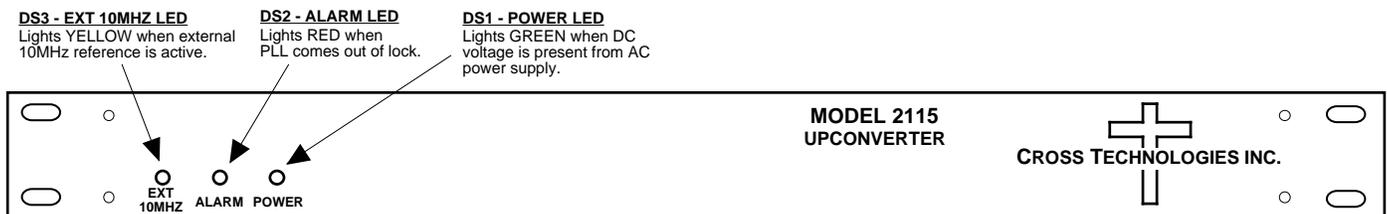

FIGURE 2.2 2115-123 Front Panel Controls and Indicators
4. Be sure DS1 (green, DC Power) is on and DS2 (red, Alarm) is off (Figure 2.2).
6. If EXT is selected or AUTO is selected and there is a 10MHz, +3 dBm signal at J2, check that DS3 (yellow, Ext 10MHZ) is on (Figure 2.2).